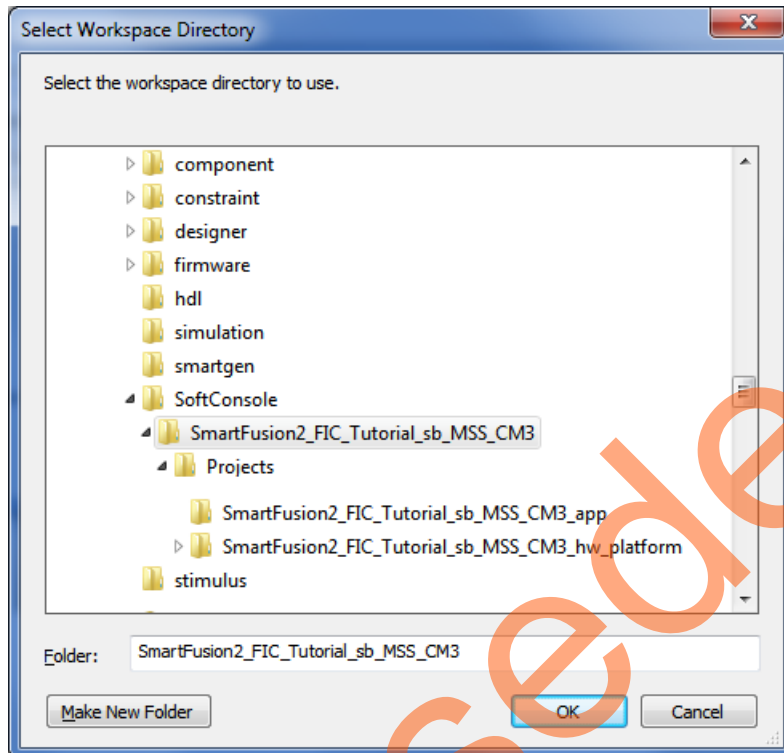

Figure 44 • Select Workspace Directory
7. Navigate to the **SoftConsole** folder and select **projects** folder as shown in Figure 44.